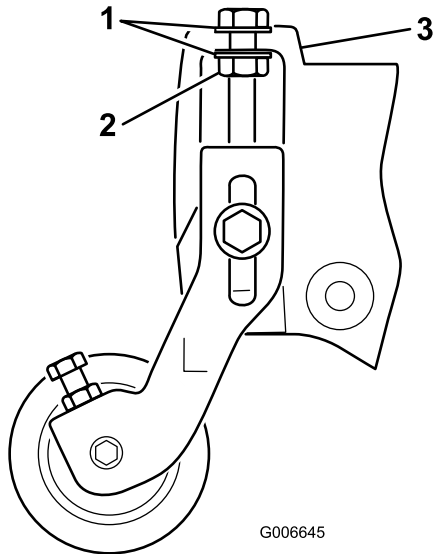

Figure 7
Note: The washers on the height-of-cut adjusting bolts must be located on each side of the flange on the side plate (Figure 7).
13. Tighten the locknut on the height-of-cut adjuster bolt until the washers contact the side plate flange, then back off the nut 1/2 turn (Figure 7).